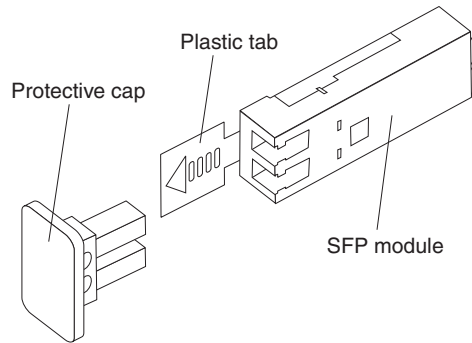

Figure 12. Small Form-Factor Pluggable (SFP) Module
2. Remove the protective cap from the SFP module, as shown in Figure 12 . Save the protective cap for future use.
2. If necessary, remove the protective cap from the SFP module, as shown in Figure 12 on page 17. Save the protective cap for future use.